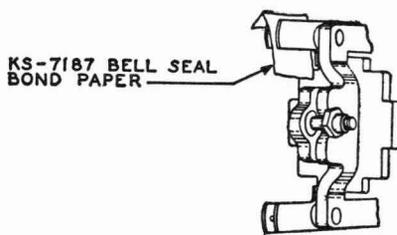

Fig. 18—Insulating Contacts of Relays in General (R-type Relay Illustrated)
4.02 **Insulating Contacts of Relays Except Wire Spring Types:** Cut the strip of KS-7187 paper to the required size. Fold the paper and insert it between the contacts, as shown for typical relays in Figs. 18, 19, 20, and 21. When insulating normally closed contacts, manually operate the relay before inserting the paper.